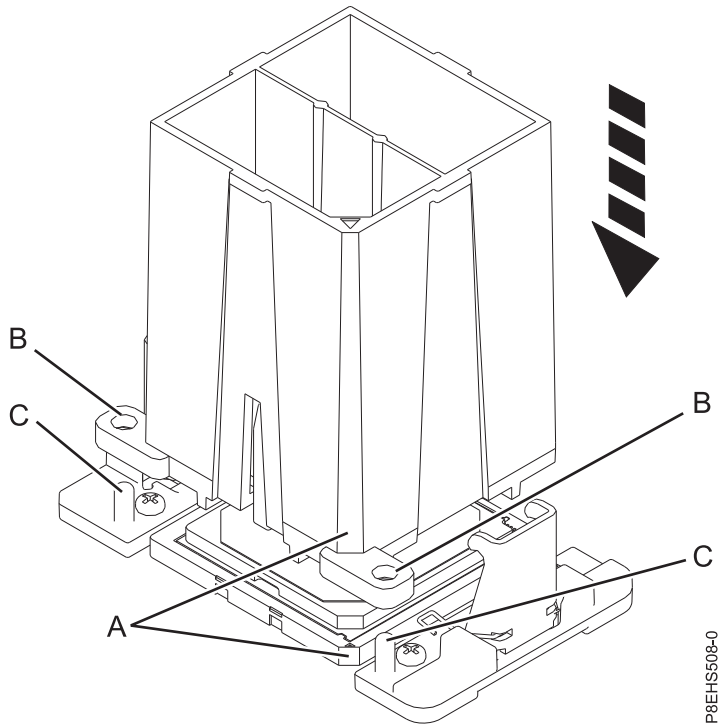

Figure 84. Lowering the removal tool onto the system processor module
- a. Using the supplied removal tool (part number 01AF101), align the beveled corner (**A**) of the tool over the beveled corner of the system processor module as shown in Figure 84 on page 83.